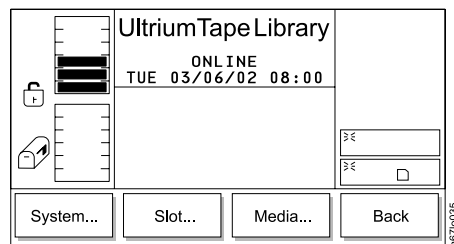

Figure 92. Library Submenu
2. Press the button below the **Library** softkey. The Library Submenu displays (see Figure 92).